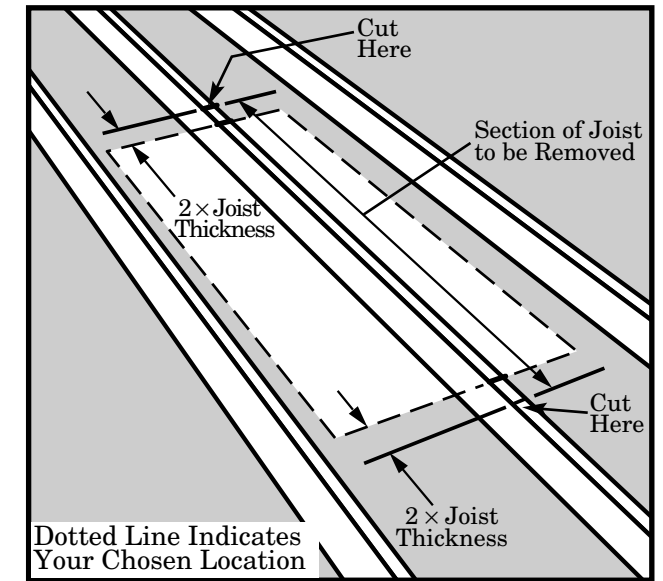
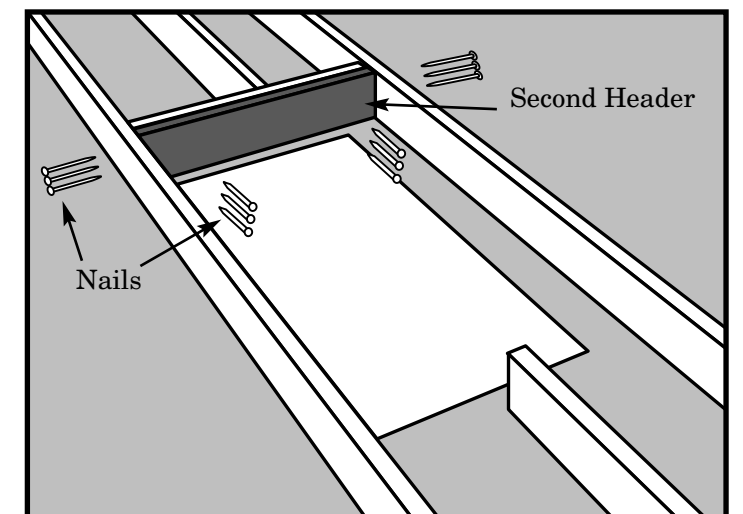

Figure 13
Figure 19
STEP 4. Next, determine where the joist(s) should be cut. Figure 13 shows where to mark the joist(s) that span your chosen location. Note that the joist(s) should be marked back from the edge of your location a distance of 2 times the joist thickness (usually three inches). This leaves room for two joist-sized headers to be placed against each end of the cut joist(s) (see Figure 19 on page 14).
STEP 6. Place a second header against the first header and nail it to the first header with 3 nails (16d) between each joist as shown in Figure 19.
STEP 7. Drive 3 nails (16d) through the joists into each end of the second header as shown in Figure 19.